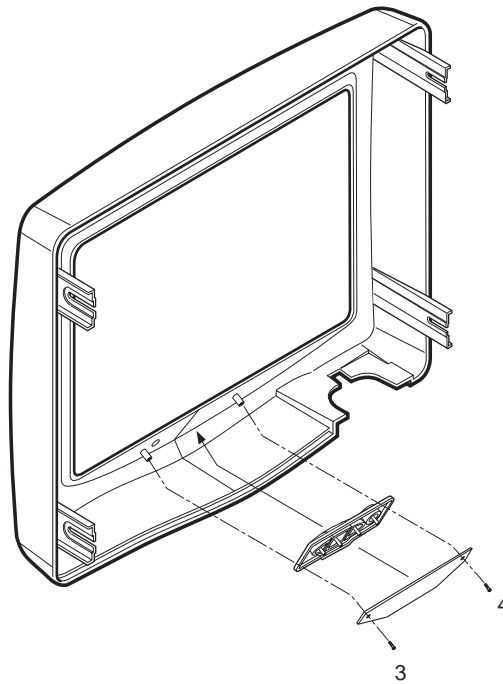

Figure 8-12 Removing Monitor S/W Assy
4.) Remove the Monitor S/W Assy. Refer to Figure 8-12.